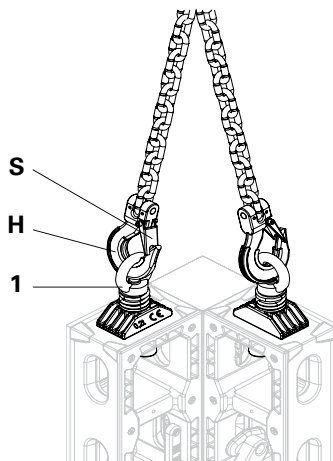

Fig. 5
Attach Hook (H) of the lifting gear in the upper hole (1) of the Crane Eye DUO and close. (Fig. 5)